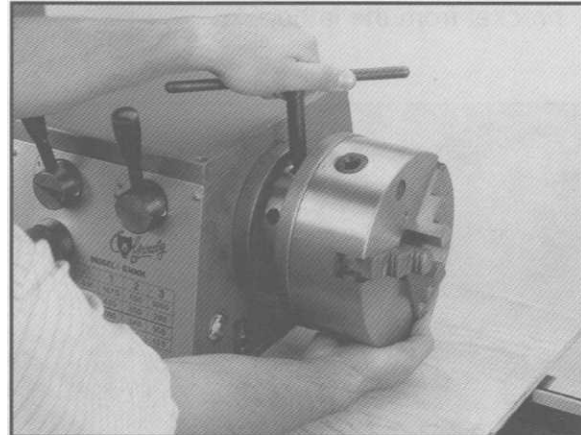

Figure 6
1. Align the chuck with the camlock on the spindle so the three notched pins line up with the three holes in the face of the camlock and insert the pins until the chuck and camlock are secure. See Figure 6.